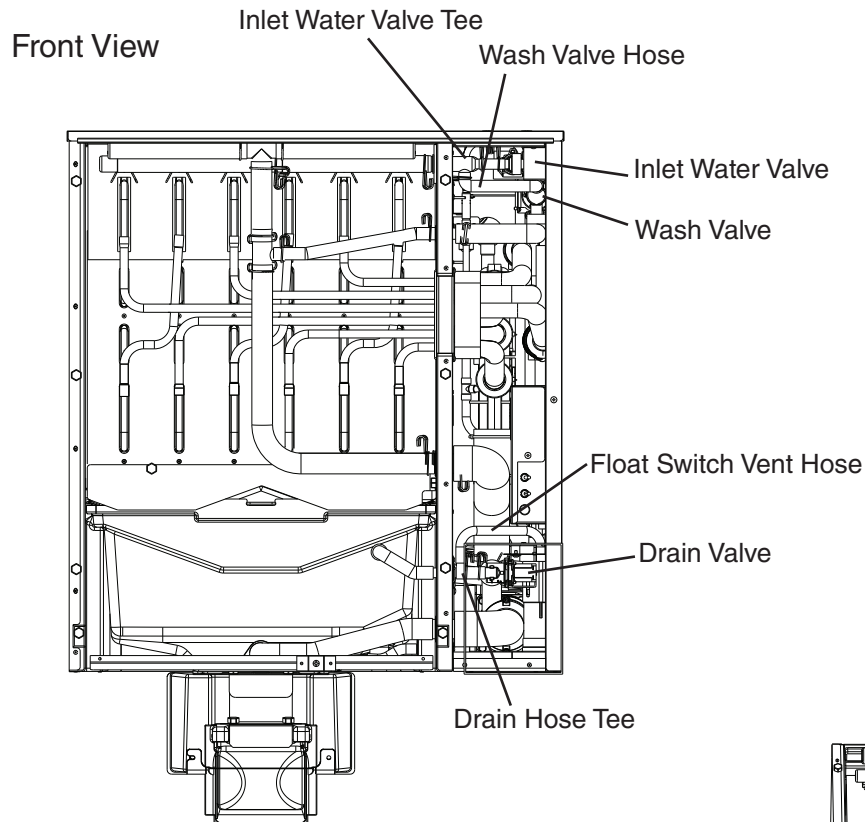

Fig. 21
- 8) Disconnect the wash valve hose from the inlet water valve tee, then unplug the water pump connector at the water pump. See Fig. 21.